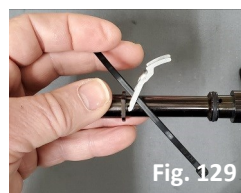

Fig. 132
18. Fold the lever down, ensuring that the zip-tie is snug against the feet of the lever (Fig. 131). The required spread of the legs is thus provided by the zip-tie (Fig. 132).